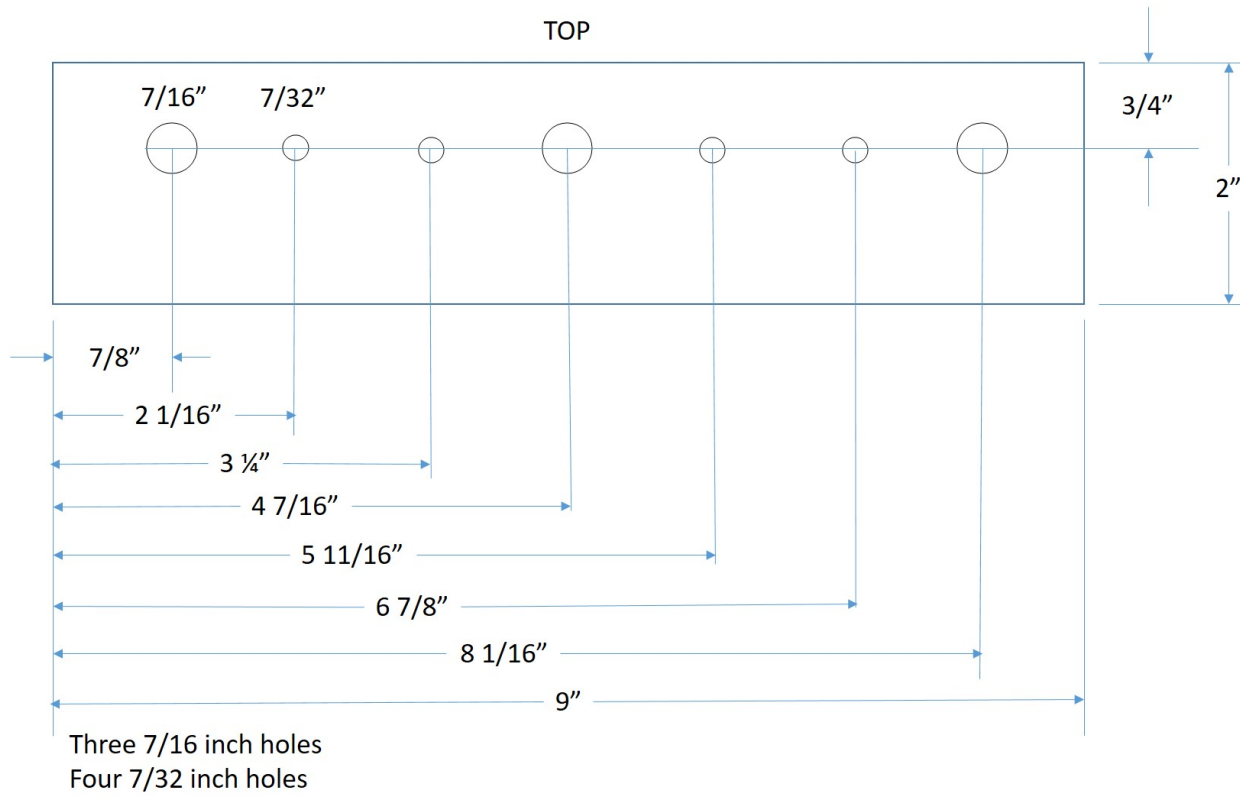
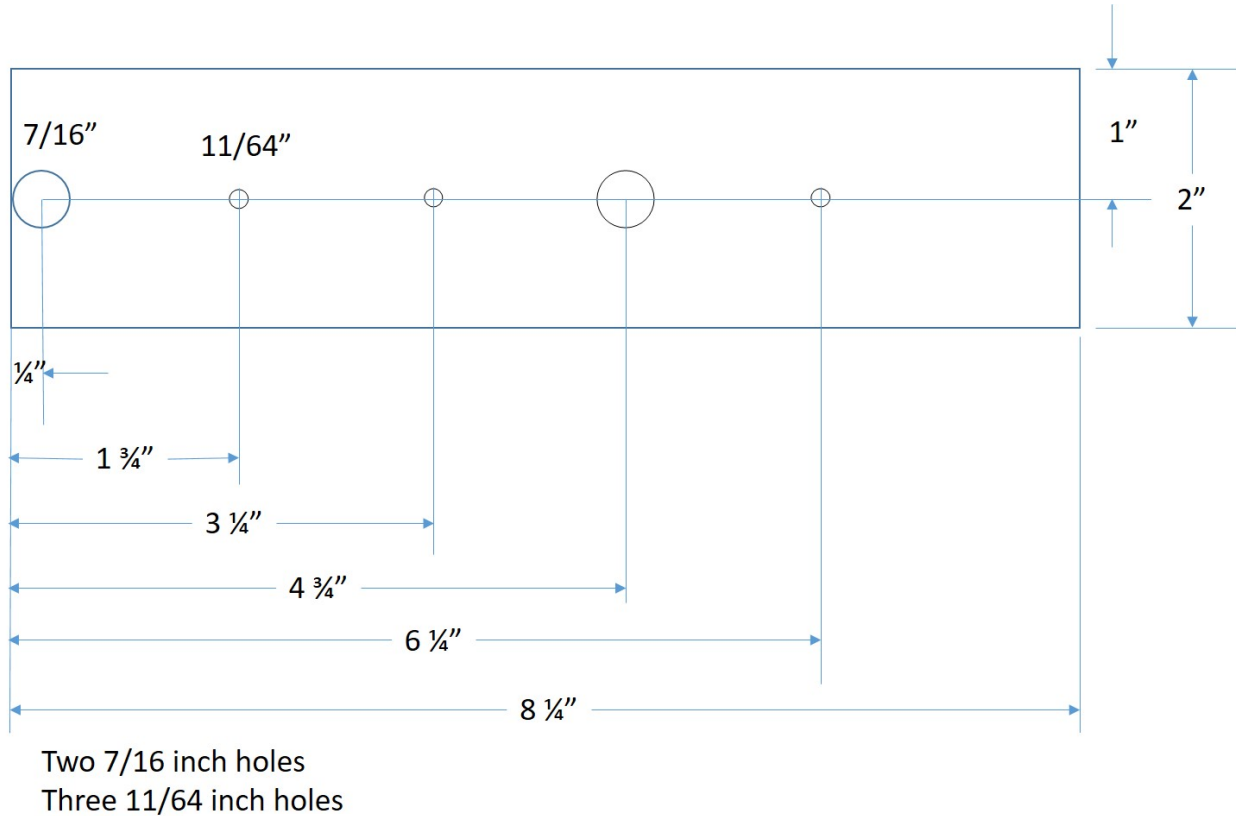

Fig. 9
Fig. 10
13. Provided in Fig. 9 and Fig. 10 are the drilling templates.